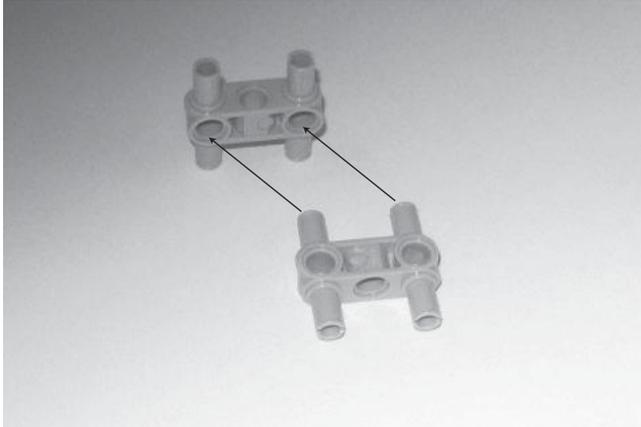

Figure 12.6
Step 1: Connect two 3M pegged blocks together, as shown in Figure 12.6.